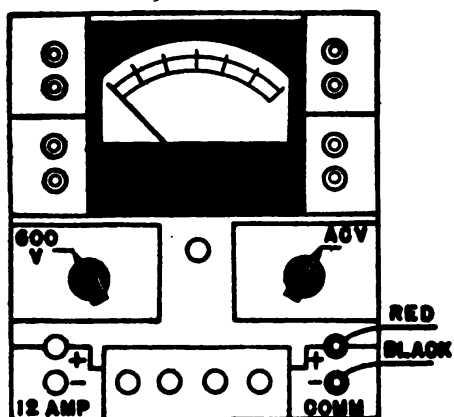

FIG. 5A: O-3V, O-12V, O-60V,
(6) For the 0-6,000 volts range, multiply reading on red 0-60 a-c scale by 100.
**b.** When using 0-3, 0-12, 0-60, 0-300 or 0-600 a-c volt ranges at 1,000 ohms-per-volt see figure 5A and table I for switch positions, meter scales, and jack connections, and proceed as follows:
(1) Observe the cautions for voltage measurements.
(2) Set the circuit selector switch to A.C.V. position.
(3) Set the range selector switch as follows: